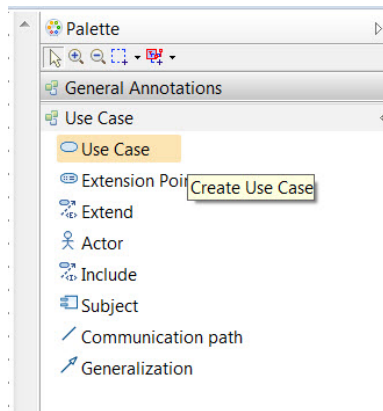
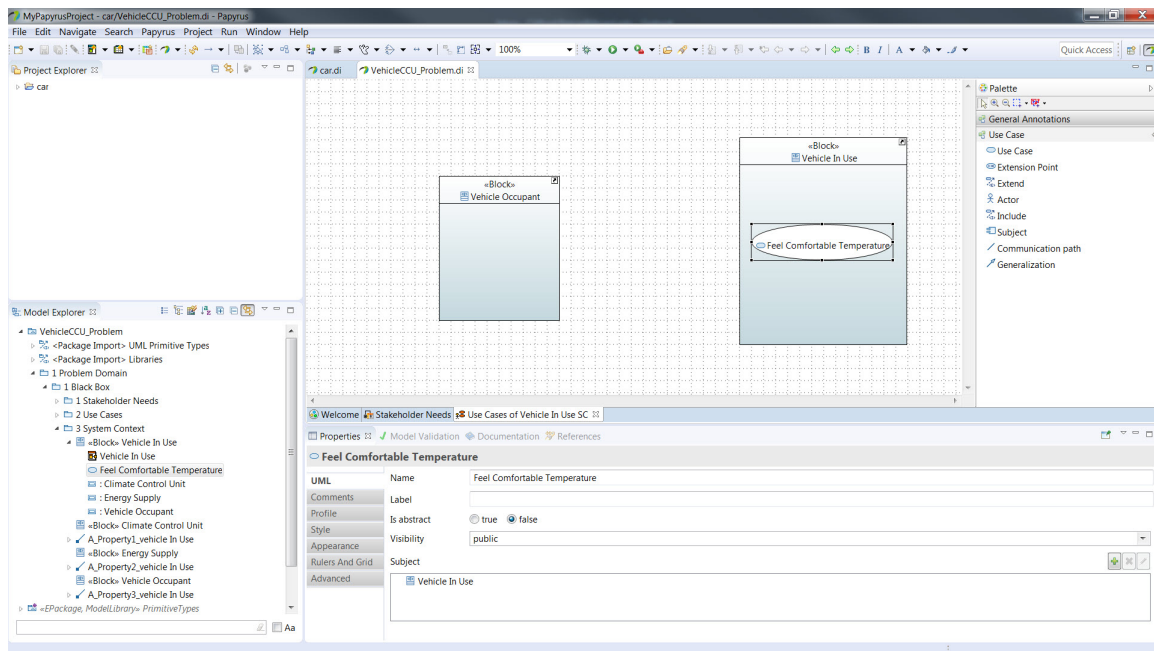

Figure 31: Use Case Tool Palette
Figure 32: Vehicle Occupant block in Use Case Diagram
6. In our analysis of stakeholder needs we have identified the *Feel Comfortable Temperature* use case performed in the *Vehicle In Use* system context. We will now capture this use case in the *Use Cases of Vehicle In Use* SC diagram. The tool palette on the right should be displaying the Use Case tool palette. Left-click on the *Use Case* item (figure 31) and then Left-click anywhere in the *Vehicle In Use* block. A use case is created in this block. Name this use case *Feel Comfortable Temperature* and press Enter. Your screen should look like (figure 32).